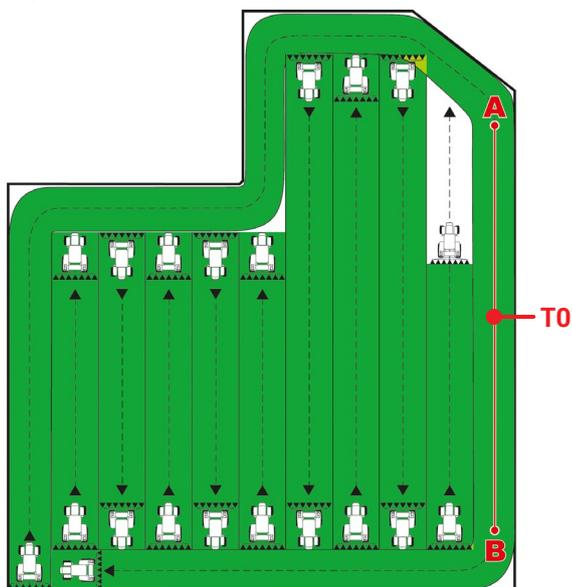

Fig. 244
• Once the line from A to B has been marked (TO), it will be possible to spray the rest of the field along parallel lines, (Fig. 244), by following the reference tracks shown on the display (Fig. 245).